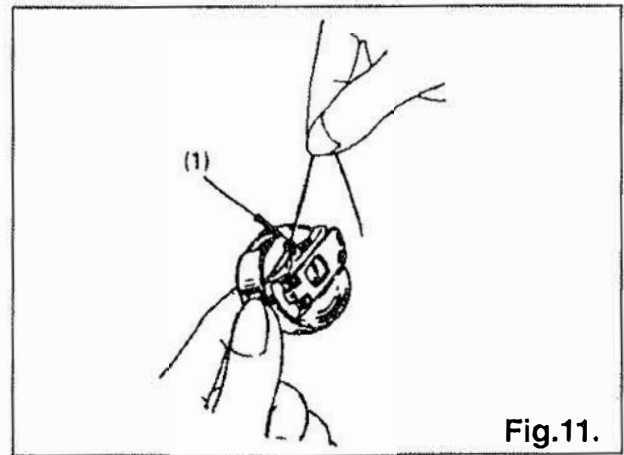

Fig. 11.
3. Draw thread out from slot (2) on end of spring (1), (Fig. 10) and pass it through bobbin case thread guide (1), Fig. 11. Allow about 4 inches of thread to hang freely from bobbin.
NOTE: When straight stitching, a better result can be obtained if bobbin thread is not threaded through bobbin case thread guide (1), Fig. 11.